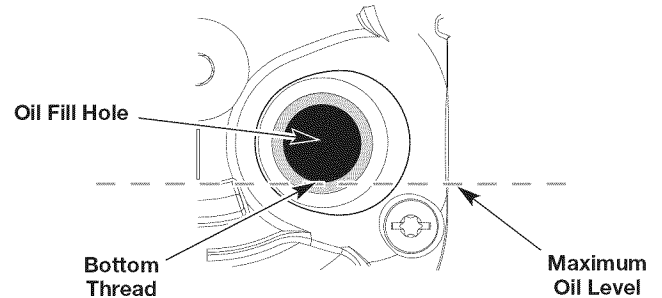

Fig. 12
5. Look into the oil fill hole; use a flashlight if necessary. **The oil level should just touch the bottom thread of the oil fill hole** (Fig. 12). If the oil level is too low, add oil to the oil fill hole until the oil level touches the bottom thread of the oil fill hole.